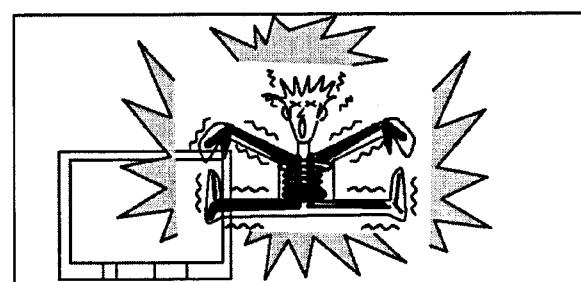

Fig. 4
6. The potential any point should not exceed 1.0 V rms. In the case of a measurement being outside of the limits specified, there is a possibility of a shock hazard, and the receiver should be repaired and re-checked before it is returned to the customer. Fig. 4.